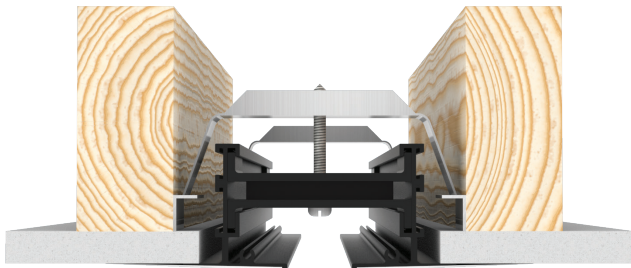
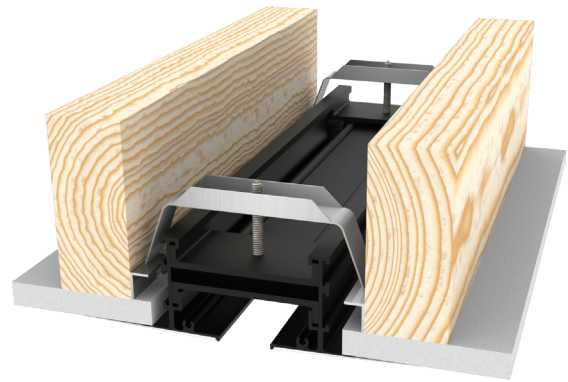

Figure 17 (Step 5A): Install Drywall – Exposed Face/Flange Border (A)
Figure 18 (Step 5A): Install Drywall – Tape and Spackle Border (C)
- A. Lastly, install sheetrock as shown in Figure 17. If one or both borders have a tape and spackle (“C”) border, see Figure 18.